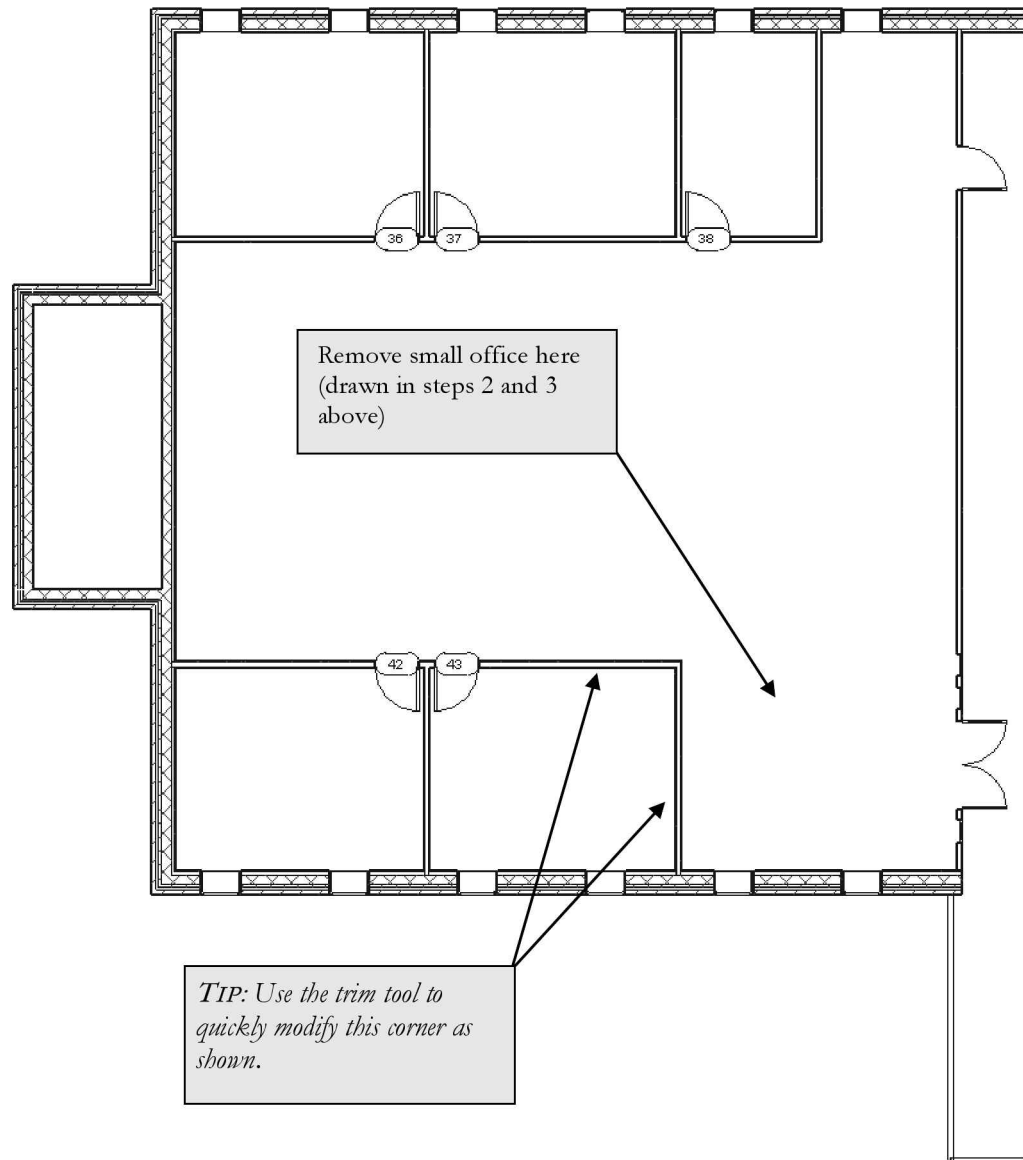
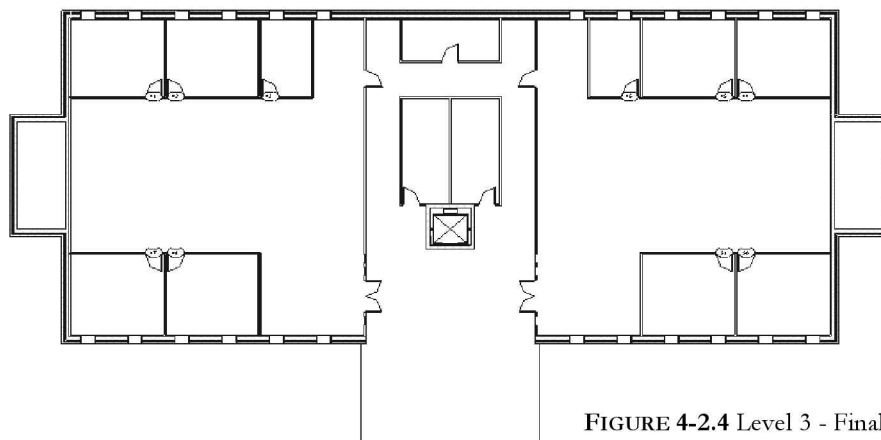

FIGURE 4-2.3 Level 3 - Modify walls
FIGURE 4-2.4 Level 3 - Final layout
- Finally, modify the small office on the south, each side of building (Figure 4-2.3 and Figure 4-2.4).
TIP: If you use the Trim tool (per the TIP in Figure 4-2.3), you will need to select “Delete Instance” to tell Revit to delete the door from the portion of wall that is being deleted.